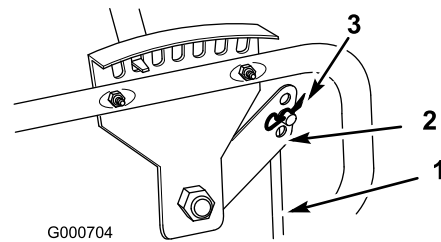

Figure 7
8. Secure the upper end of the height control rod to the height adjustment handle with a hairpin cotter (Figure 7).